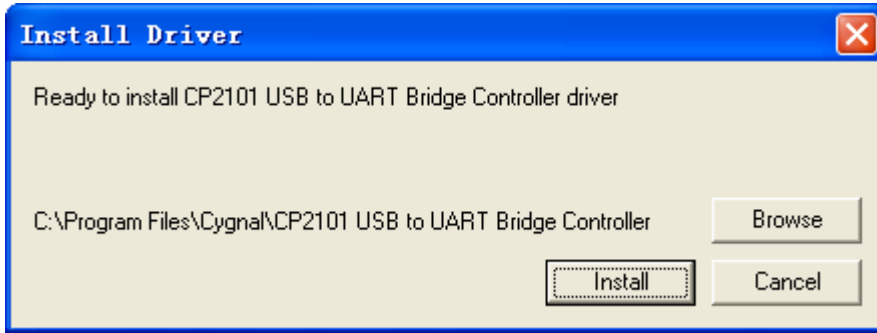

Figure 2-12
2.2.3 Dblclick “Setup. exe” icon to run the USB Driver installation program. The following figure will appear, as shown in Figure 2-12.
2.2.4 Click “Install” button in Figure 2-12, the interface shown in Figure 2-13 is available. That indicates the USB Driver has been installed successfully.